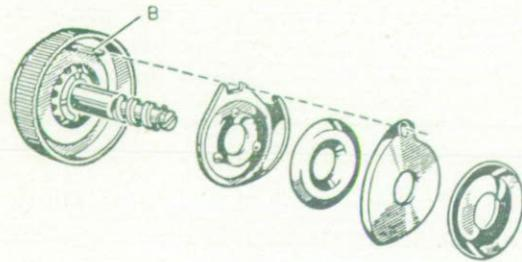

Fig. 32
- Disassemble parts as in Fig. 32.
- Assemble parts exactly as shown in Fig. 32 and in such a way that the « 0 » mark will be visible on button « A ».